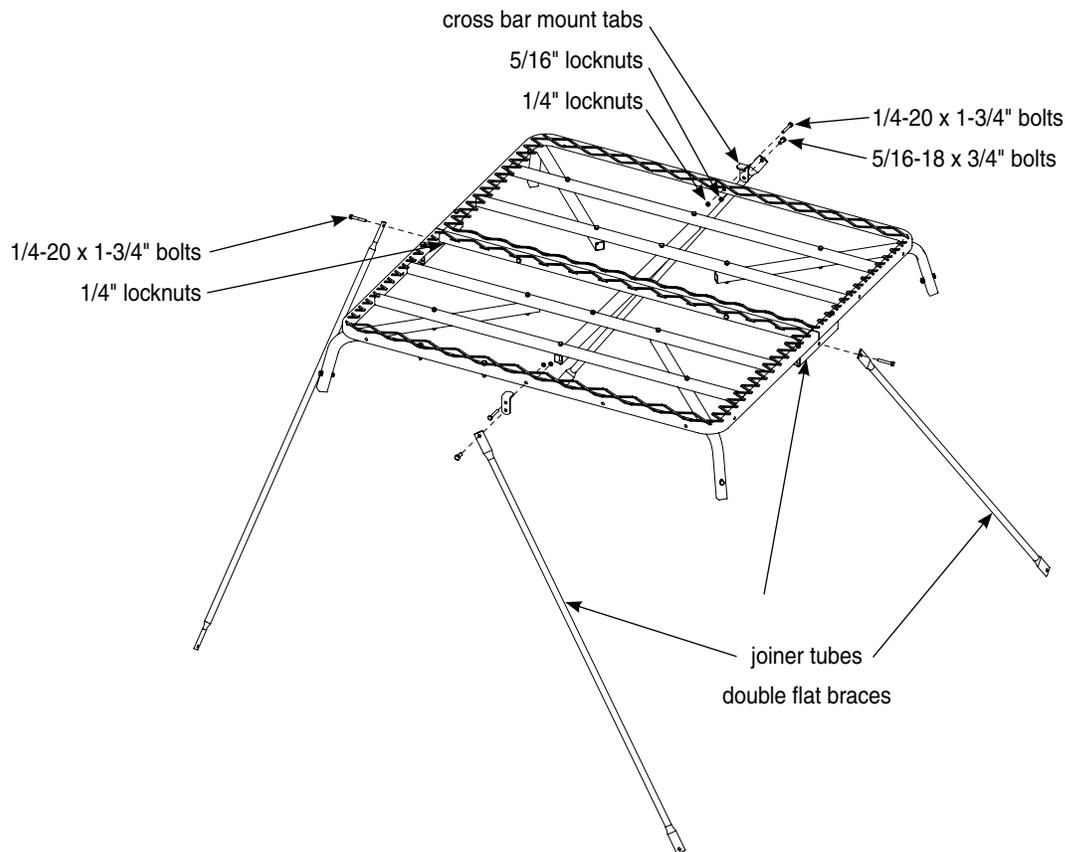

FIGURE 10
16. a. Attach (2) cross bar mount tabs (TWR23) to the long side of both platforms using (2) provided 1/4-20 x 1-3/4" bolts and locknuts. **SEE FIGURE 10.**
- b. Attach (2) double flat braces (TP135) to both cross bar mount tabs using (2) provided 5-16-18 x 3/4" bolts and locknuts. **SEE FIGURE 10.**
- c. Attach remaining (2) double flat braces to each of the outside platform joiner tubes using (2) provided 1/4-20 x 1-3/4" bolts and locknuts. **SEE FIGURE 10.**